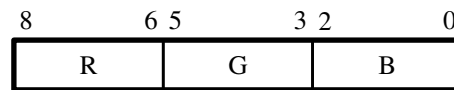

Figure 8. 9-bit RGB Color Space.
- 9-bit RGB — This format uses 3 bits for each color as shown in Figure 8. This mode is defined as 3 bits per color and three color planes.